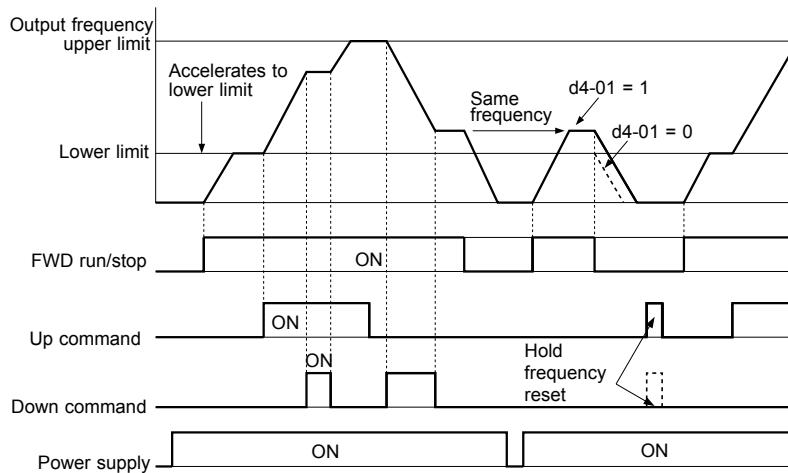

Figure 5.61 Up/Down Command Operation
**Figure 5.61** shows an Up/Down function example with a lower frequency reference limit set by d2-02, and the frequency reference hold function both enabled (d4-01 = 1) and disabled (d4-01 = 0).